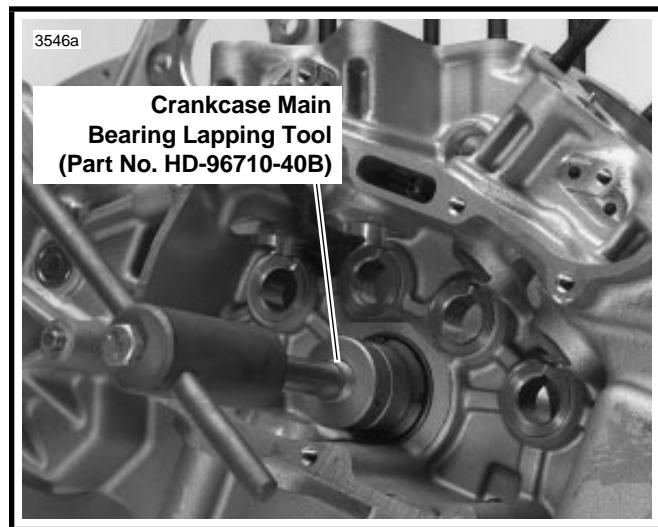

Figure 3-81. Lapping Pinion Shaft Main Bearing
2. See Figure 3-81. Obtain **CRANKCASE MAIN BEARING LAPPING TOOL (Part No. HD-96710-40B)**. Assemble **CRANKCASE MAIN BEARING LAP (Part No. HD-96718-87)** to lapping handle. Assemble guide sleeve to sprocket shaft bearing bushing. Sleeves, for use with tapered bearing, are assembled to case with bearings and small spacer collar. Finger-tighten the sleeve parts.